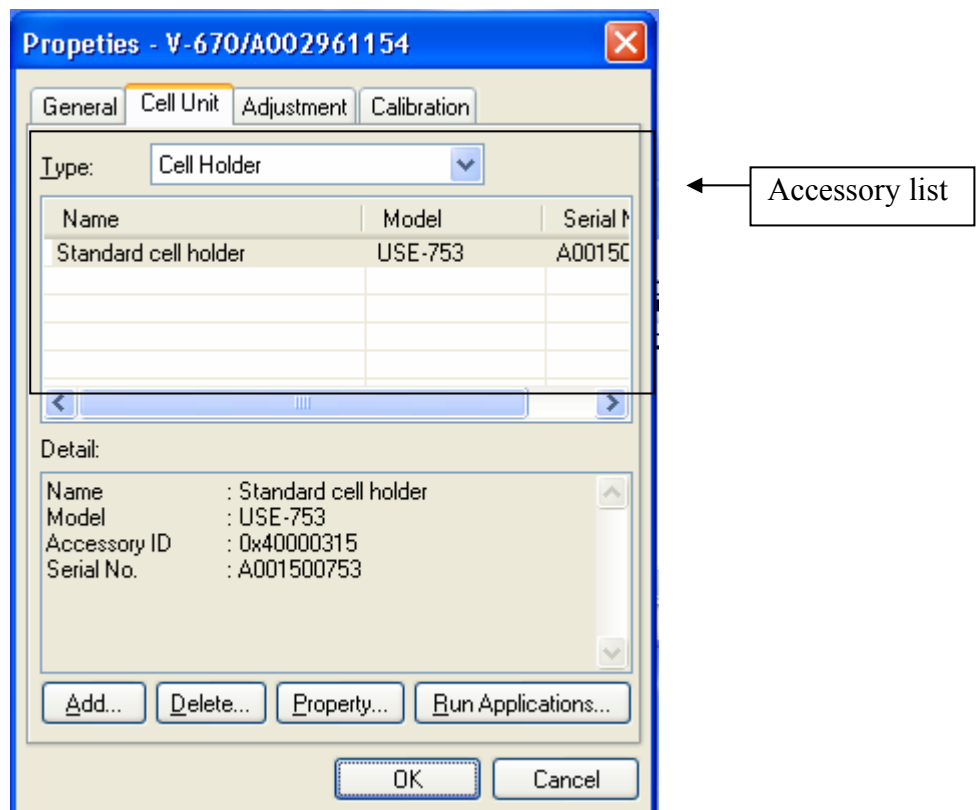

Figure 3.5 [Properties] Dialog, [Cell Unit] tab
- (1) Open the [Properties] dialog, select the [Cell Unit] tab and the screen shown above (Fig. 3.5) is displayed.
- (2) From the [Accessory List], select the accessory that is to be registered to a run application and then click the <Run Applications...> button.
- (3) The [Select Applications] dialog is displayed. Select the application to be opened when the application is started and click the <OK> button to complete the registration of the accessory.